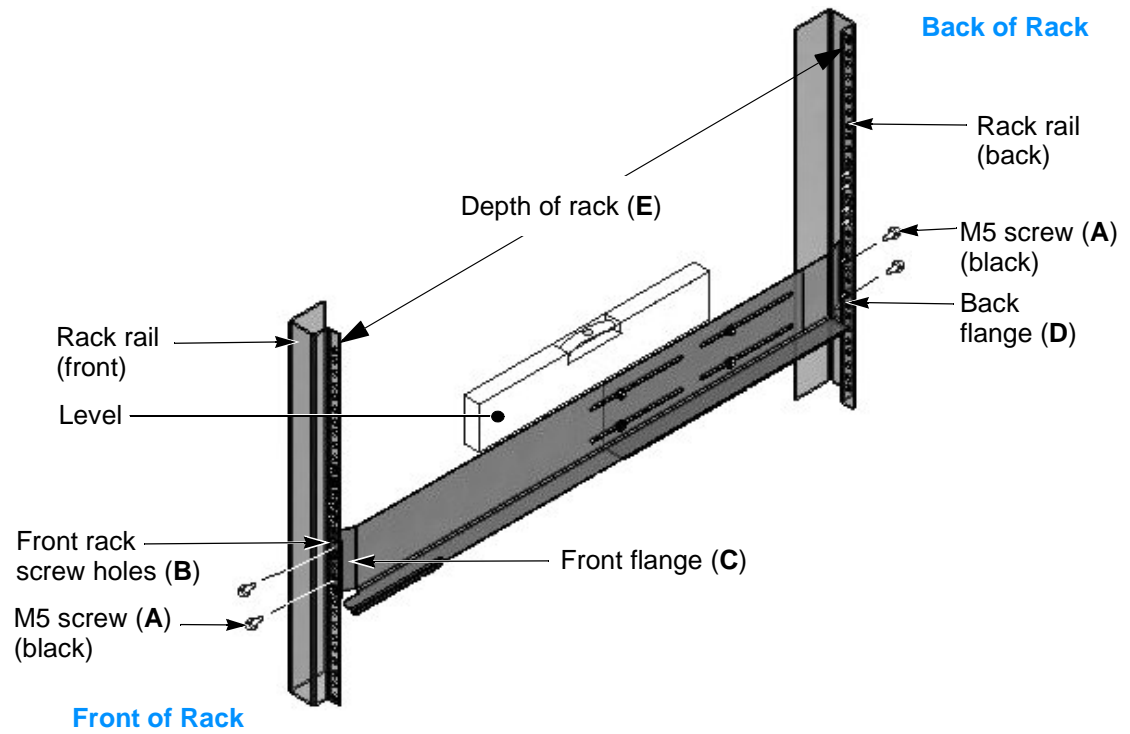

Figure 2-3 Attaching the left-side rail to the rack
1. Measure the depth of your rack—Using a tape measure, measure the *inside* distance from the front mounting holes of your rack to the back mounting holes. See Figure 2-3, distance (E).